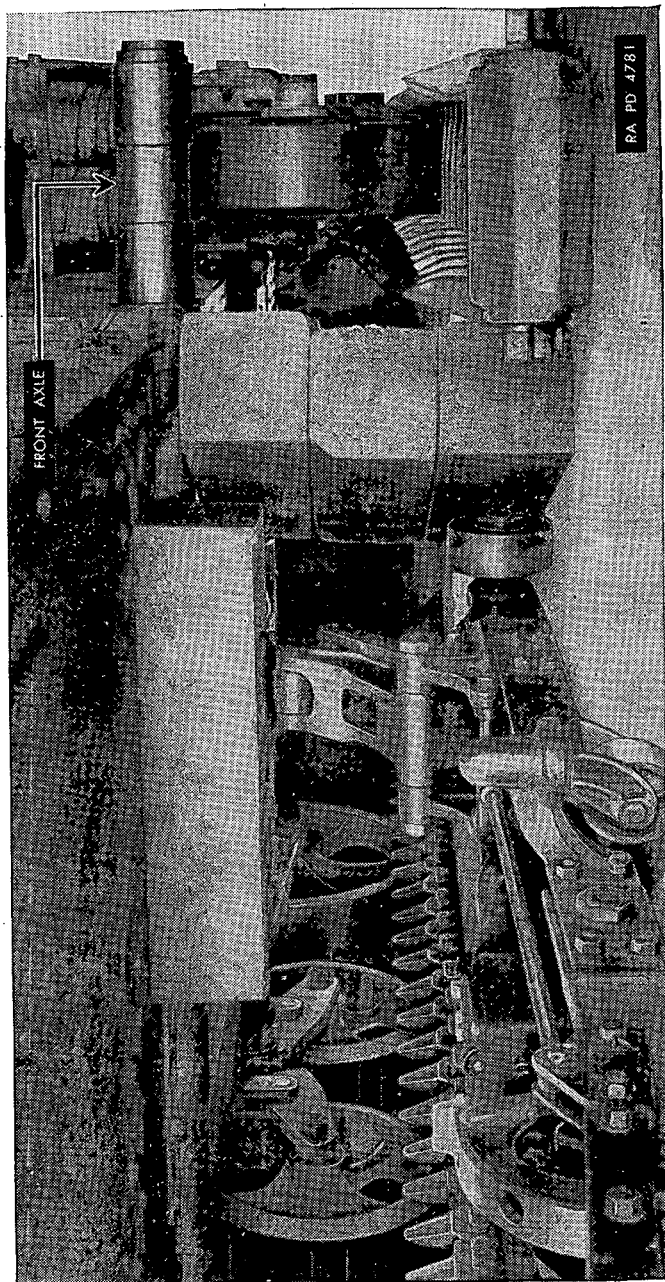

FIGURE 70.—Method of blocking front of tank.
(1) *Removal of front axle.*—Open battery switch and block up tank in front of front axle (fig. 70).